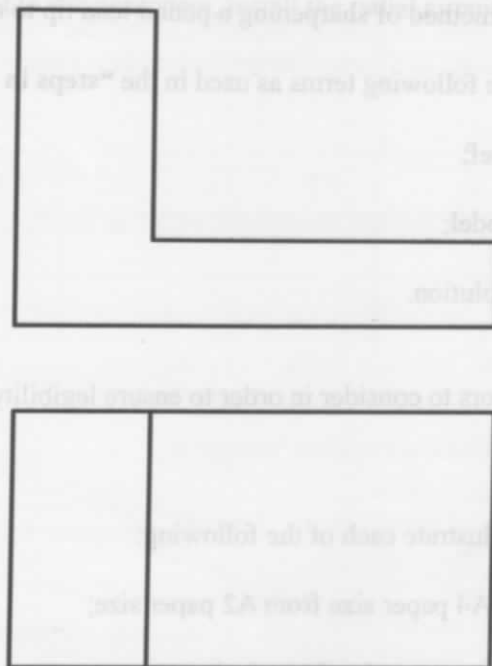

Figure 2
8. Figure 2 shows two views of a block drawn in first angle projection. Sketch the block in two point perspective when the block is below the horizon. (5 marks)